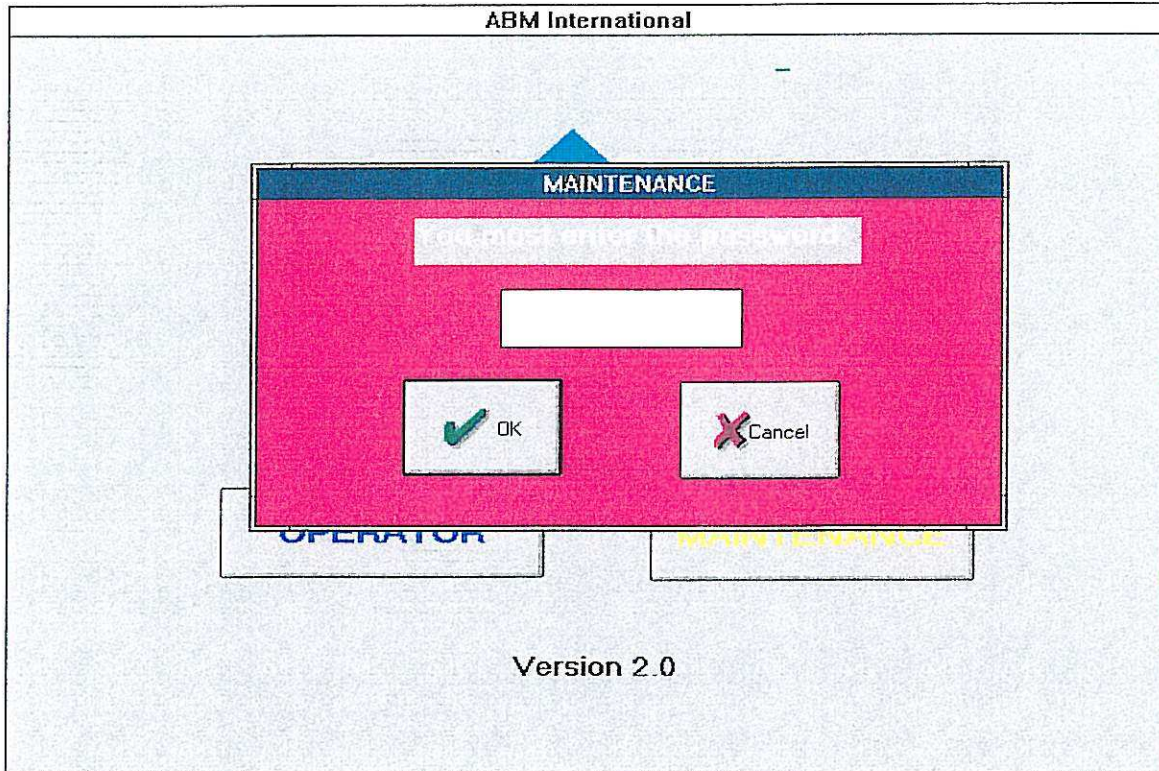
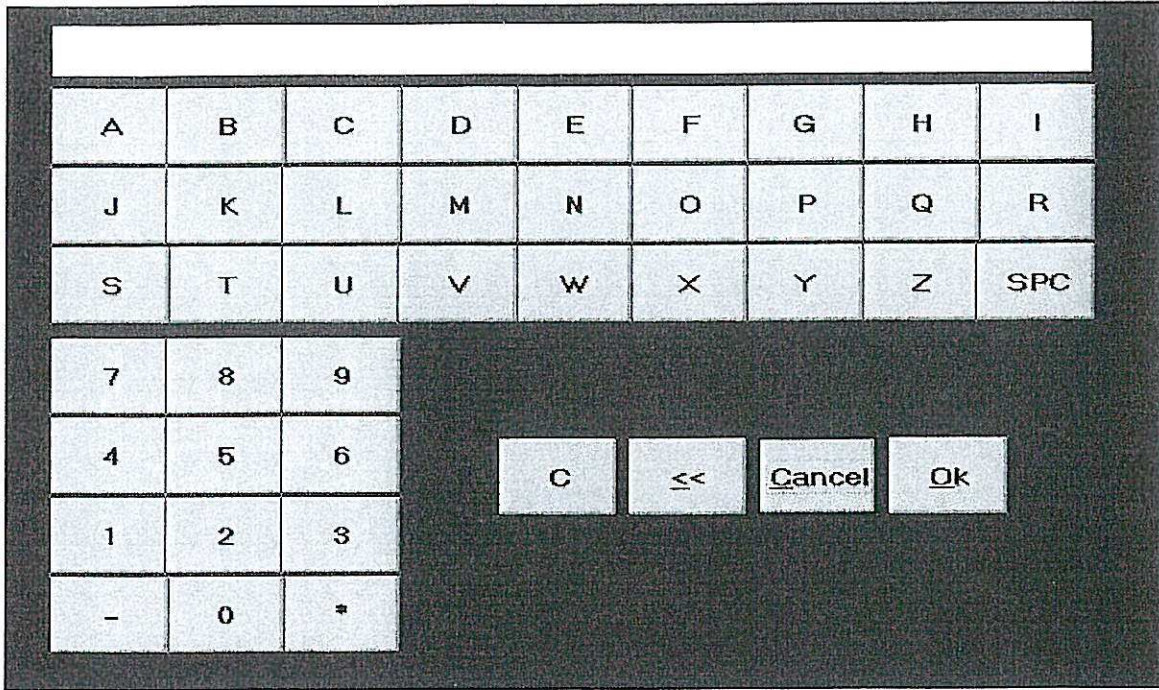

Figure 4.14
Figure 4.15
- A.** Press the “Maintenance” key on the main menu screen. A message screen will appear with a box for entering the password. See *Figure 4.14*.
- B.** Press the white “Password” box. A keyboard screen will appear. See *Figure 4.15*. Now enter the 4-character password and press the “O.K.” key. A message screen will appear again. See *Figure 4.14*.